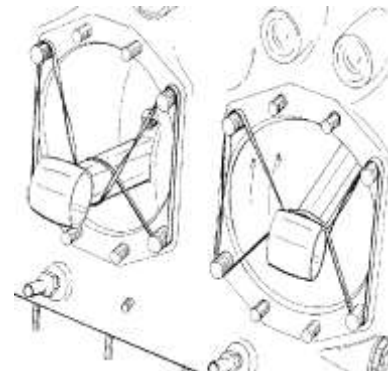

Figure 22
- (2) Make a loop around the cylinder base studs and connecting rod using a rubber band or the cylinder base oil seal ring (removed during cylinder removal) as shown in Figure 22.